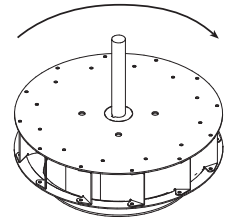

Figure 13
3. Check wheel rotation (viewing from the shaft side) by momentarily energizing the unit. Rotation should be clockwise as shown in Figure 13 and correspond to the rotation decal on the unit. If wheel rotation is incorrect, reverse two of the wiring leads or check motor wiring for single phase. Fan RPM should be checked and verified with a tachometer.
- Start the fan and shut it off immediately to check rotation of the wheel with directional arrow in the motor compartment, reference Figure 13.